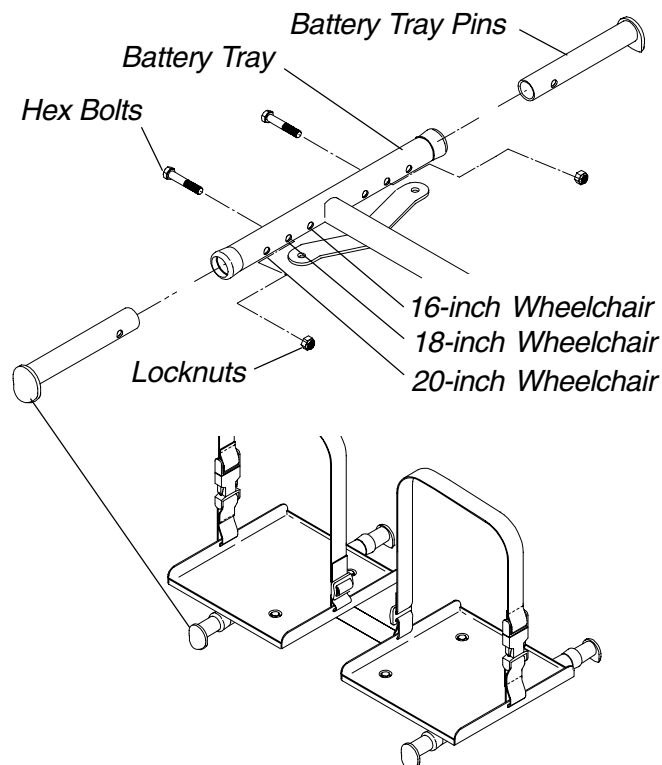

FIGURE 9 - BATTERY TRAY - CHANGING WIDTH OF BATTERY TRAY
Changing Width of Battery Tray (FIGURE 9)
2. Remove the hex bolt and locknut that secure one (1) of the battery tray pins to the battery tray.
3. Refer to FIGURE 9 to determine the mounting hole in the battery tray that corresponds to the width of the wheelchair.
6. Repeat STEPS 2-5 for the other three (3) battery tray pins.